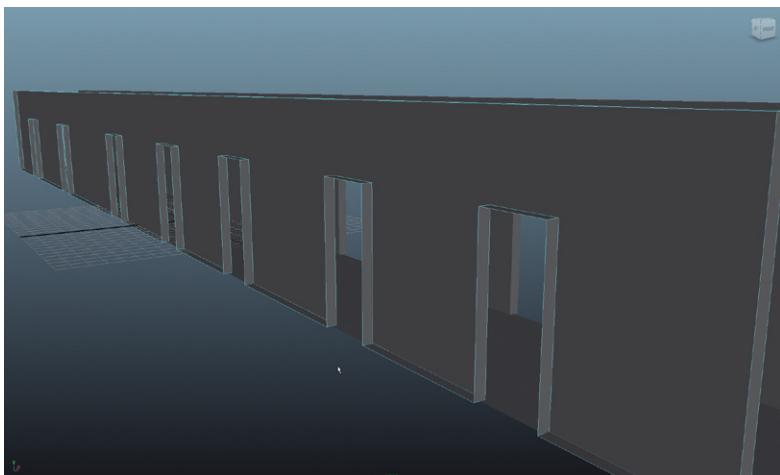

FIG 3.29 Deleted outer face of ETM_HallWallWest.
Step 44: Prepare to attach the room to the ETM_HallWallWest by deleting the face on the outside of the hall wall (Fig. 3.29).